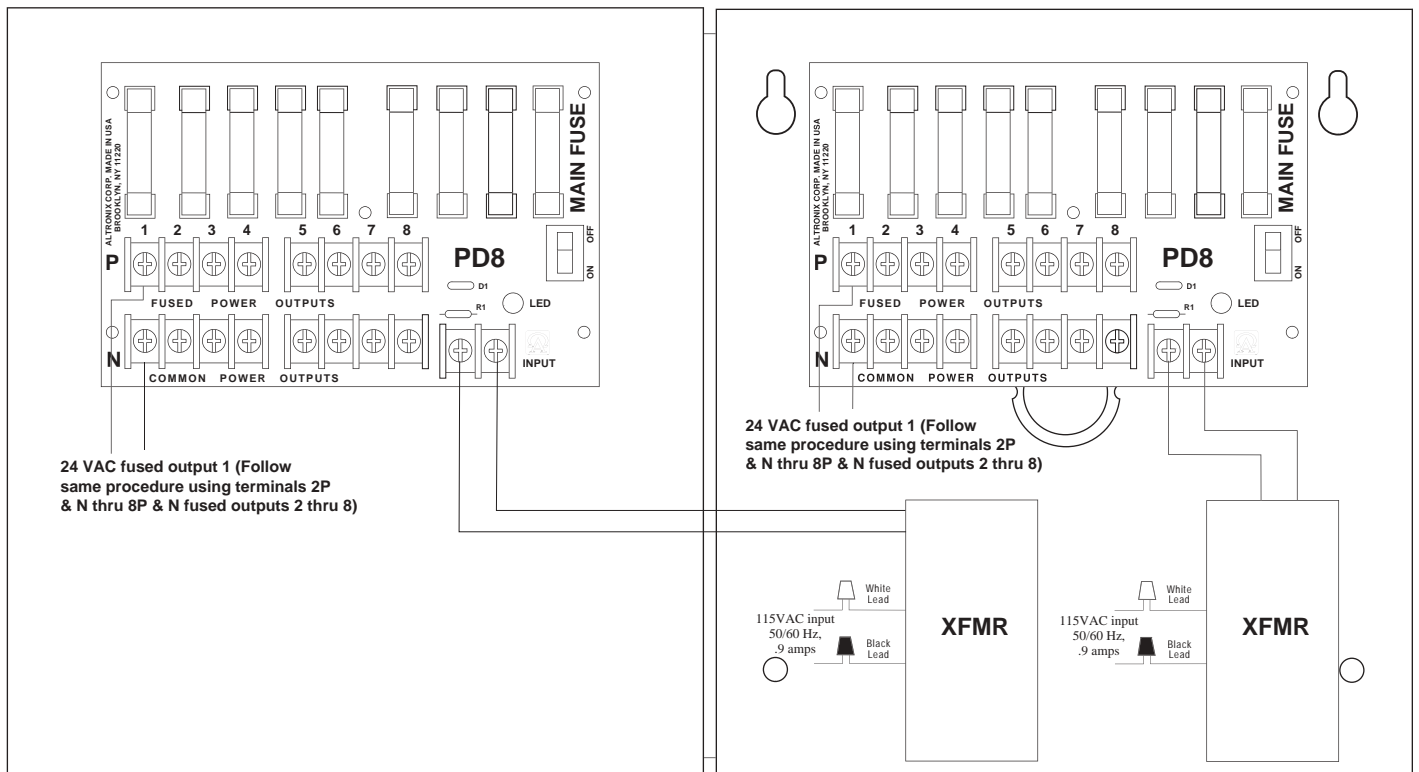

Fig. 1
- Output fuses are rated at 3.5 amp / 250VAC (Fig. 1).
- Main fuses are rated at 5 amp / 250VAC (Fig. 1).
2. Slide switch SW1 (Fig. 1) to OFF position.
3. Connect the AC (115VAC 50/60 Hz) to the two black and white flying leads of the transformers (Fig. 1).
4. Connect devices to output terminals using the following procedure (Fig. 1).
5. Slide switch SW1 (Fig. 1) to ON position.